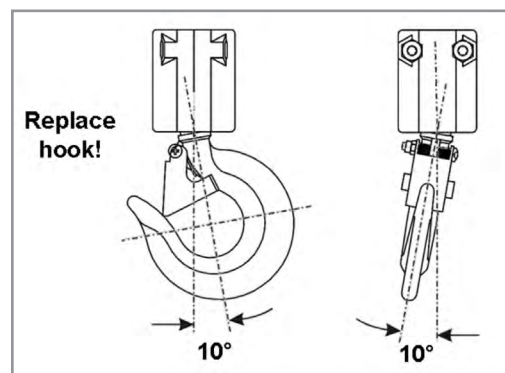

Figure 11
2. The vertical angle at the neck of the hook reaches 10° (see Figure 11).